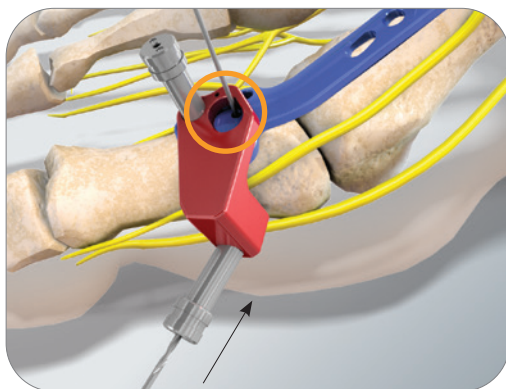

Figure 7-3
**7-3** The second 1.8mm screw-on Drill guide is threaded into the front of the interfragmentary Drill guide and the 1.8mm drill bit (blue color coding) is used to prepare the interfragmentary screw hole (**Figure 7-3**). The drill bit should be advanced across the fusion site and through the lateral cortex of the distal metatarsal.
**Note:** Once the plate is placed on the bone, a 1.1mm K-wire is placed through the interfragmentary drill guide and the plate to provide additional rotational stability. The insertion of the K-wire is circled in **Figure 7.3**.